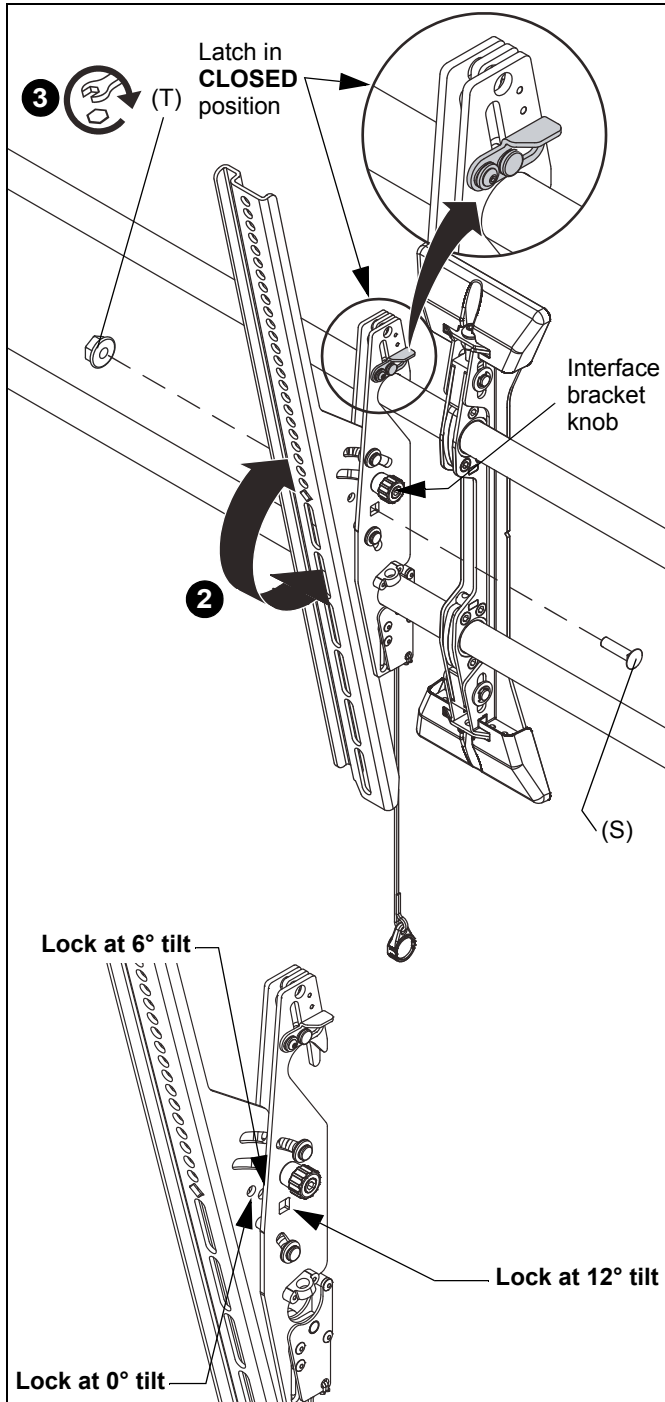

Figure 16
3. **(XTM1U only)** Move latch on top of interface brackets to CLOSED position. (See Figure 16)
2. Adjust tilt as required. (See Figure 16)
3. The tilt may be locked at 0° , 6° or 12° using one $1/4-20 \times 1$ " round head carriage bolt (S) and one $1/4-20$ hex nut (T) per interface bracket. (See Figure 16)